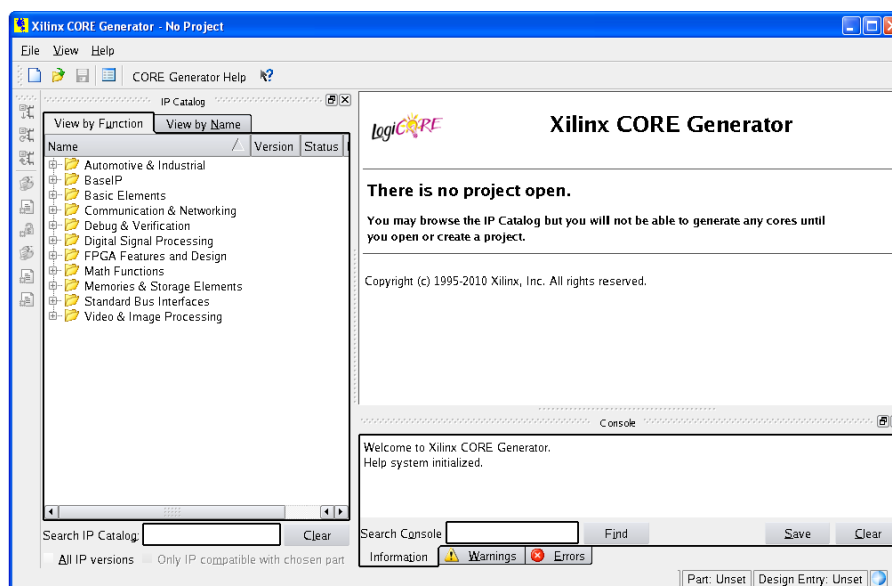

Figure 2-1: CORE Generator Window
2. The IP core functional categories appear at the left side of the window, as shown in Figure 2-1.